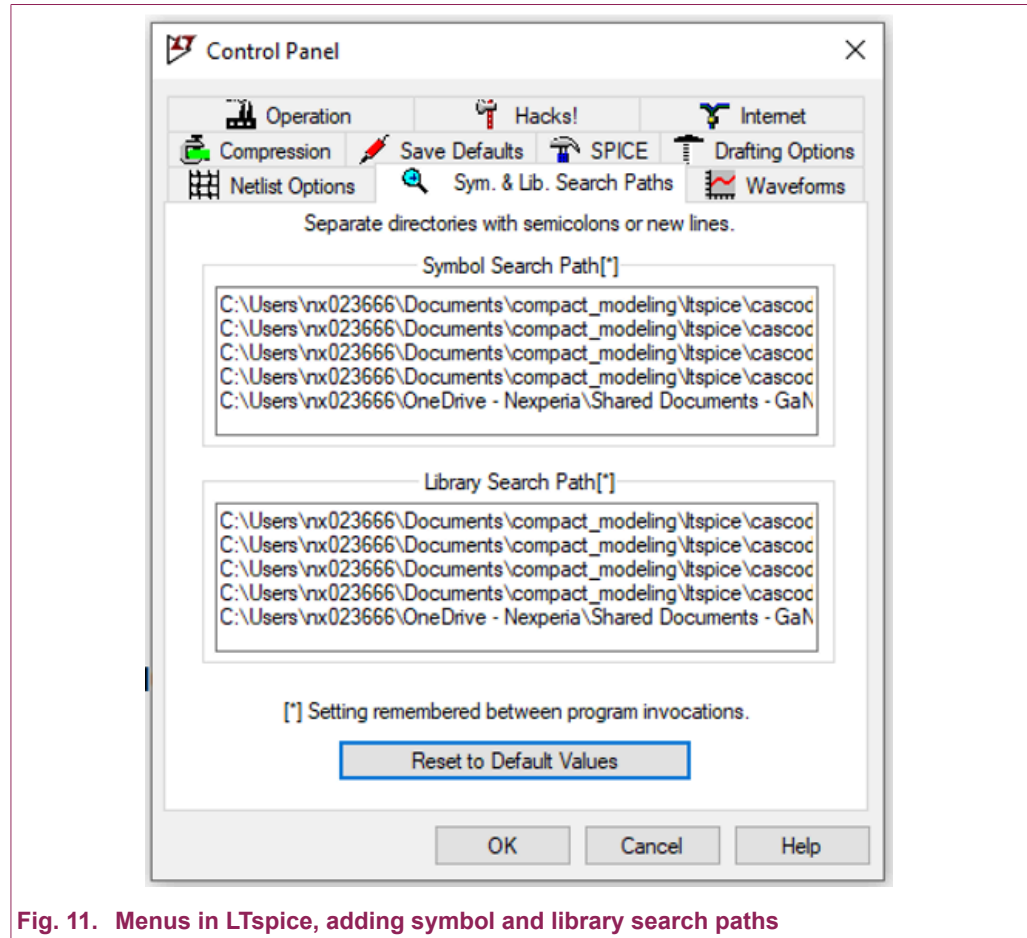

Fig. 11. Menus in LTspice, adding symbol and library search paths
- Place symbol .asy and library .lib files into any directory you want and then add that directory into search paths for symbols and libraries in menu Tools->Control Panel->Sym. and Lib. Search Paths, see Fig. 11: